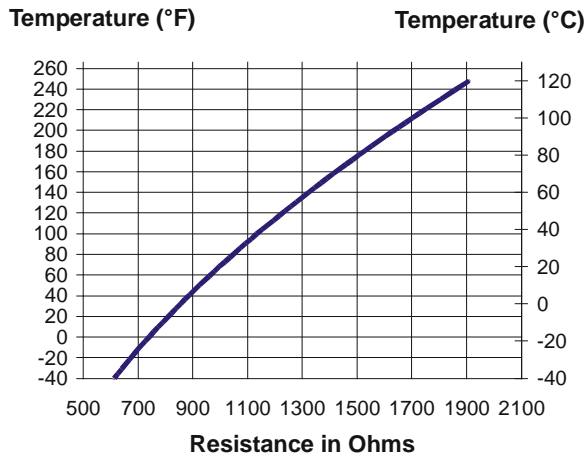

Figure 7: Temperature vs. Sensor Resistance
- e. Consult Figure 7 to verify that the measured temperature and resistance conform to established temperature and resistance values.
- f. If the measured values conform to the values in Figure 7, proceed to Step 3.
- g. Press the **Up** and **Down** (arrows) to change the Setpoint temperature above and below the sensor temperature until the relay energizes and de-energizes as shown in Figure 7.
- h. If the output relay does **not** perform as indicated in Figure 7, replace the A419 control.